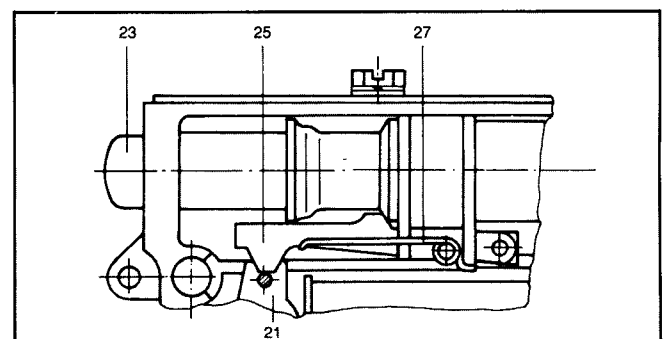

Figure 17b. Latch Detail Undervoltage Release (Shown Charged)
On the undervoltage release the latch, (25), is held by the locking pin, (21), as long as the armature, (9), is attracted, (Fig. 17b.).